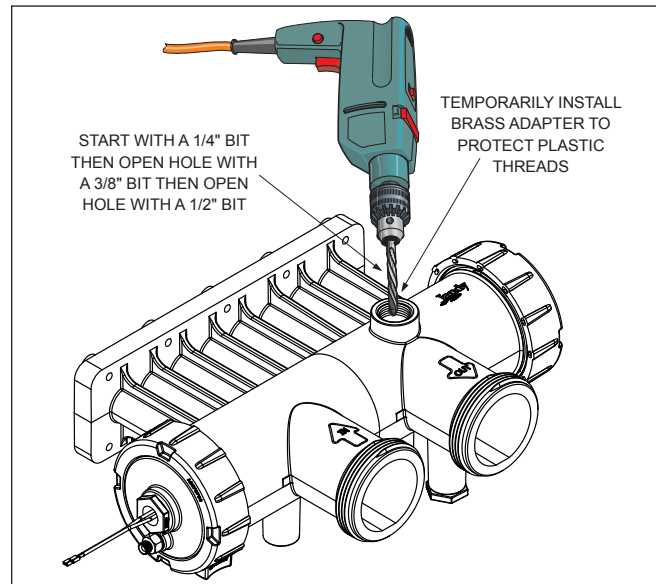

Figure 13. Drill Hole for Pressure Relief Valve
2. Using the countersink in the center of the blind hole as a guide, drill a 6,4 mm (1/4 inch) hole through the plastic. See Figure 13.